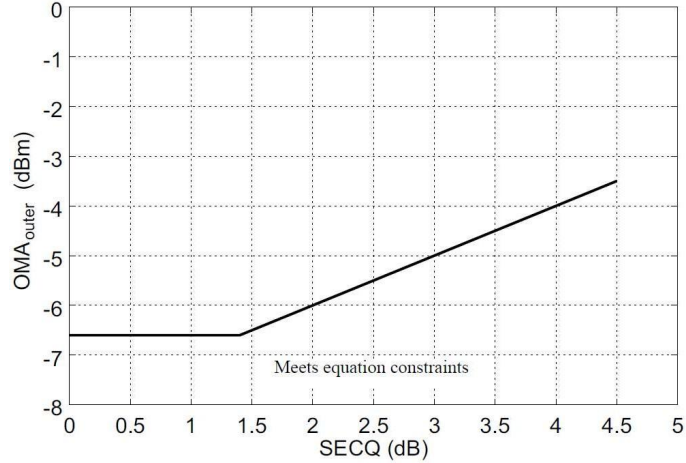

Figure 5. RX sensitivity
9. These test conditions are for measuring stressed receiver sensitivity. Receiver sensitivity is considered a normative requirement. RX sensitivity is defined for a transmitter with a value of SECQ up to 4.5dB. For transmitter with SECQ different from 4.5dB, limit is reported as per figure 5